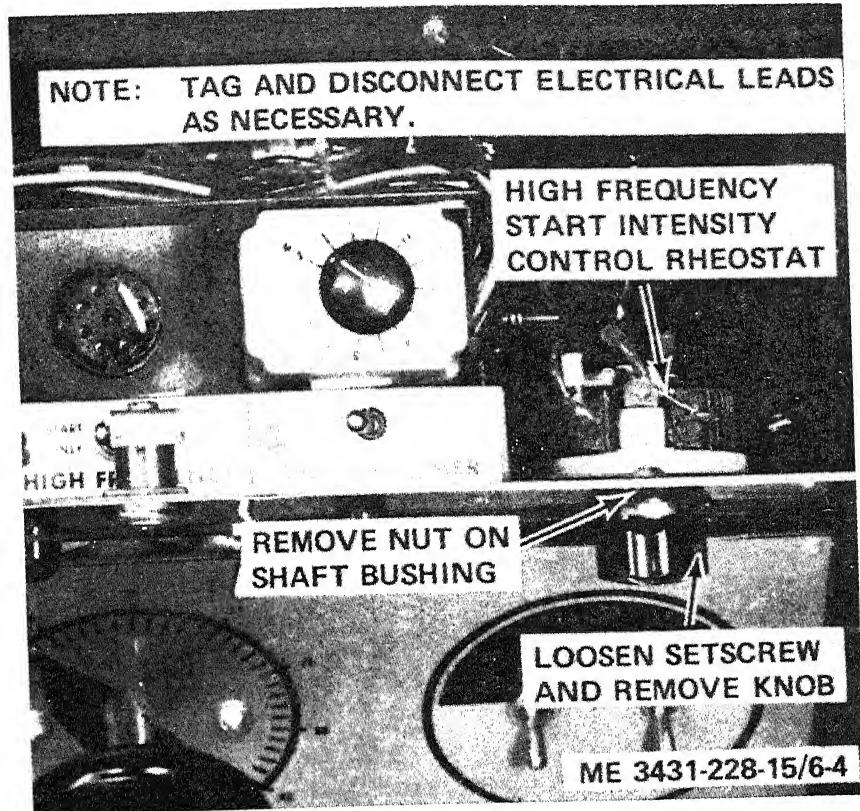

Figure 6-4. High frequency start intensity control rheostat, removal and installation.
(1) Disconnect ac power from the welding machine.
(2) Unlock and open the door on the front of the timer and high frequency drawer.
(3) Refer to figure 6-4 and remove the rheostat.
(1) Refer to figure 6-4 and install the rheostat.
(2) Close and lock the timer and high frequency drawer.